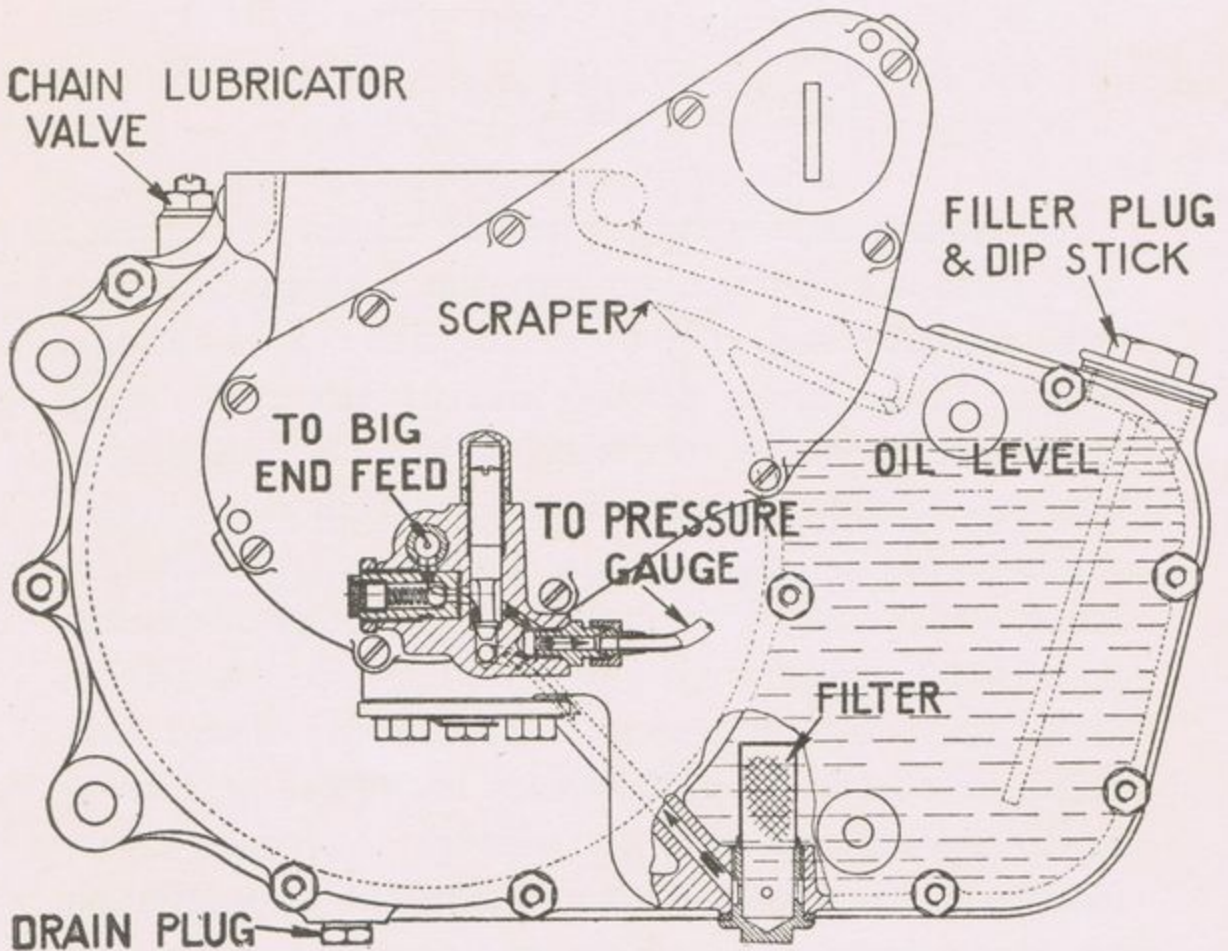

Fig. 1.
**“SUMP” SYSTEM** (Fig. 1). Cast integral with the crankcase is a sump, the capacity of which varies with different models. The gear type pump, driven by skew gearing from the timing side mainshaft, delivers filtered oil to the big-end bearing, the oil entering the annular space between the two rows of rollers and the centre portion of the phosphor bronze cage.